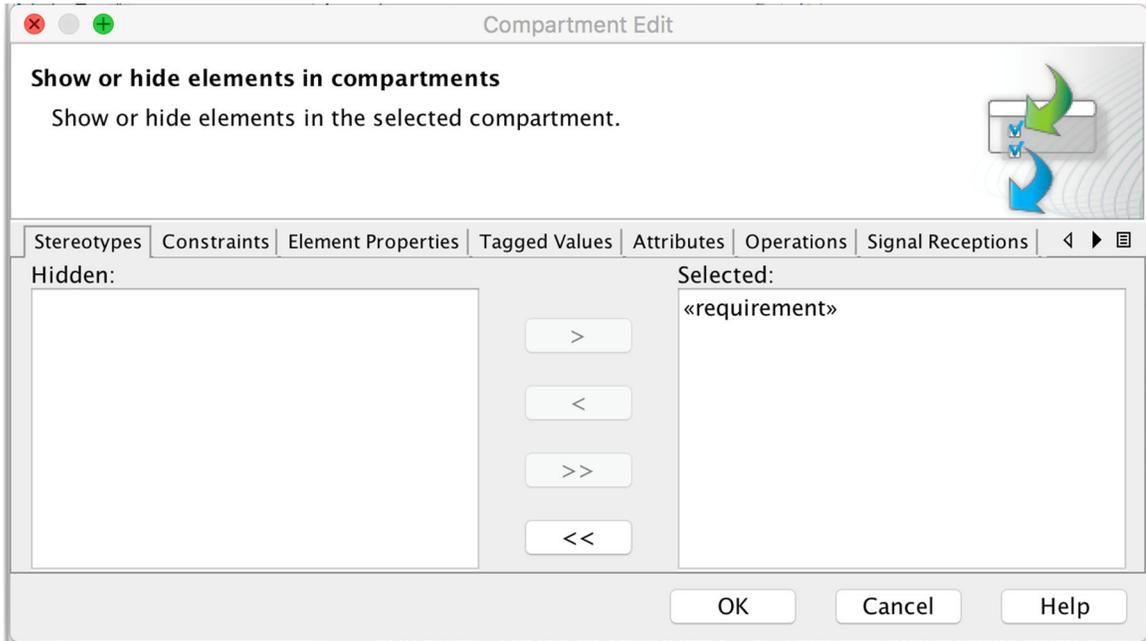

Figure 20. Edit Compartments Window
- Finally, you have to display the Satisfied By compartment on the Requirements Blocks in your Diagram. On a Requirement Block, click the Compartments icon (three dots in a square) in the upper left corner, select the down arrow and select Edit Compartments. You get a window like Fig. 20. This window is complicated because there are a lot of compartments in SysML; the following steps will produce the desired Diagram: